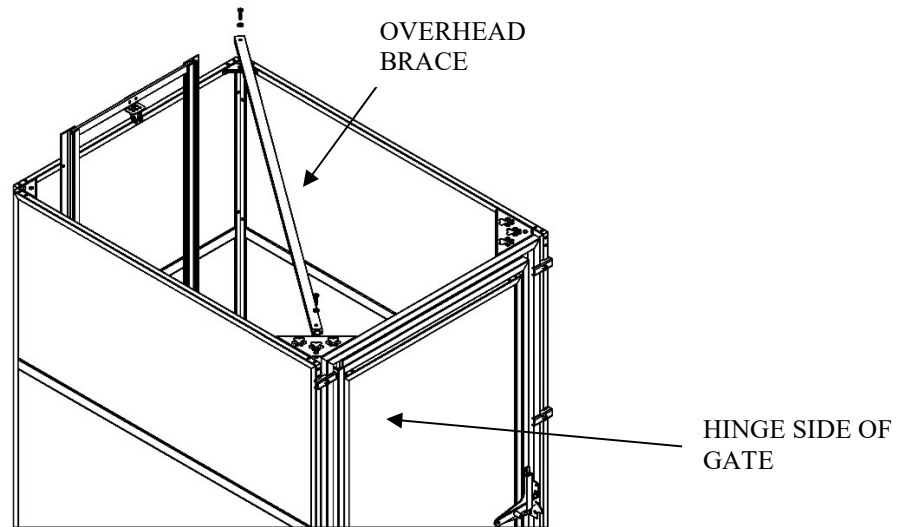

Figure 21
1. Place overhead brace diagonally on top of the previously installed gussets. The front of the brace should be on the hinge side of the gate as shown in Figure 21.